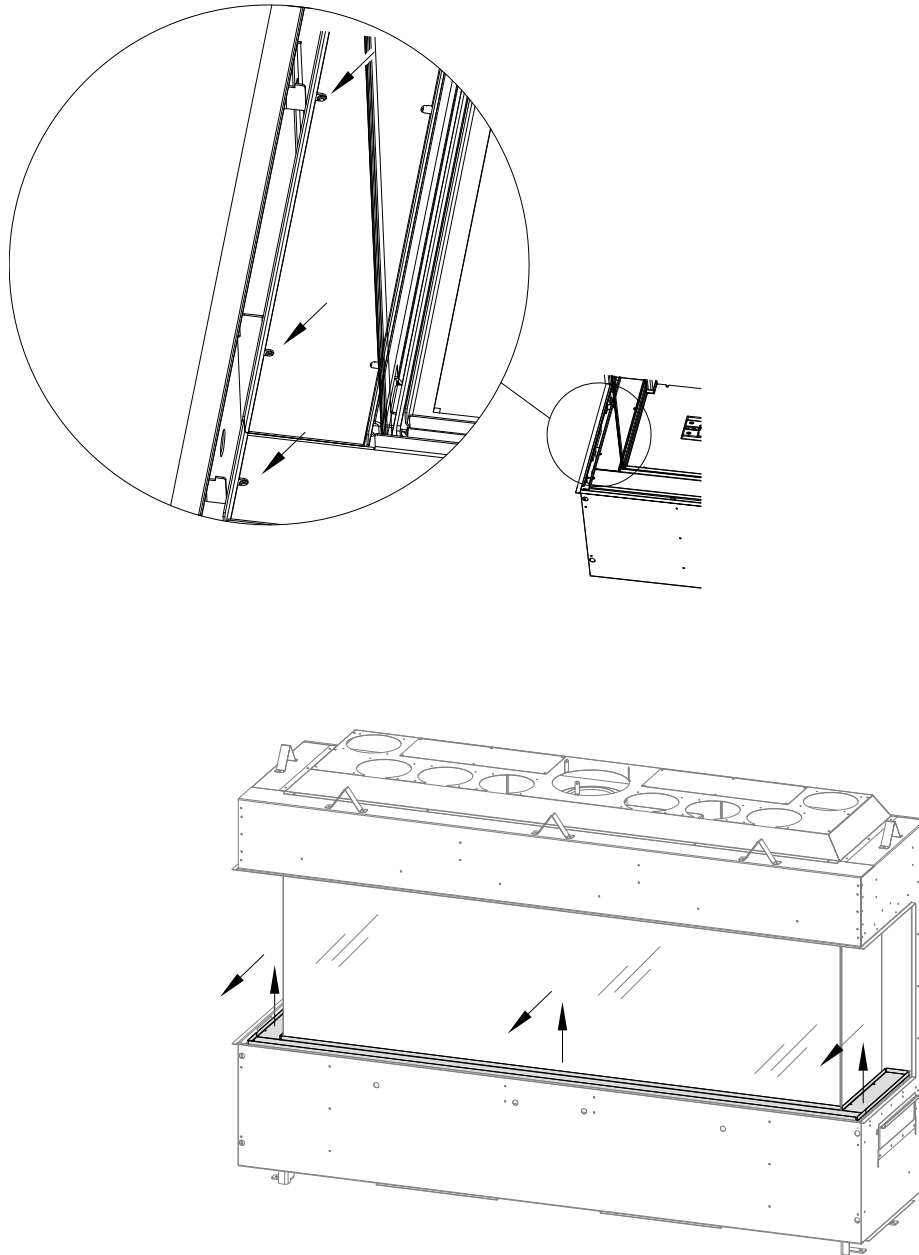

Figure 4.5 - Removing Perimeter Media Tray
1. After the safety glass barrier is removed locate the (3) sheet metal screws that secure each side media tray and the front media tray. See Figure 4.5.
2. After removing the sheet metal screws you can lift up and remove the media trays. See Figure 4.5. Install in reverse order.
1. Remove the perimeter media tray by lifting it up and out of the slot it is installed. See Figure 4.5.